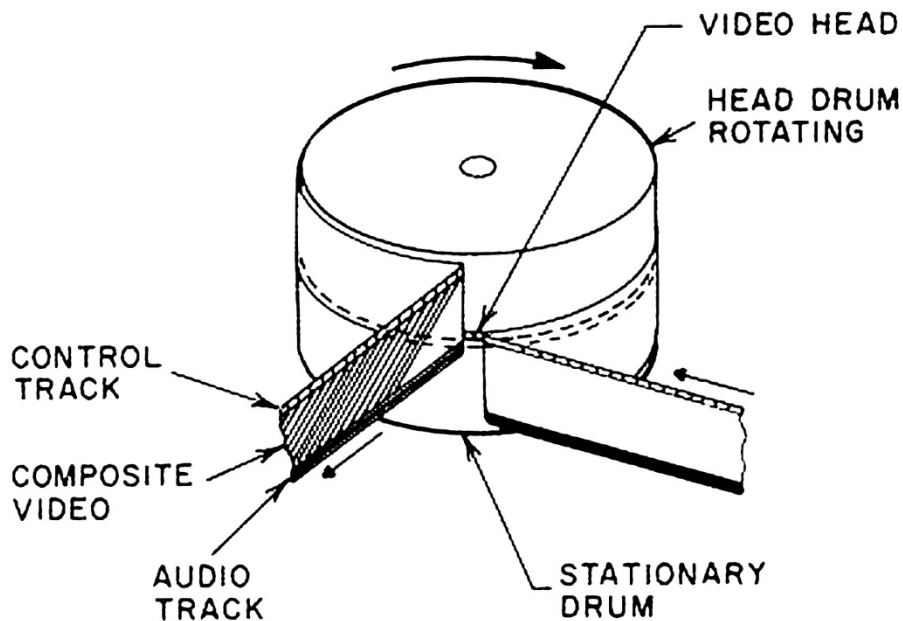

Figure 2. Tape path of a Type A machine
- 1) A fundamental fact about "A" format machines is this: They use a helical wrap that is **not** a full 360 degree wrap around the head drum; therefore each revolution of the head drum recorded **almost** 1 field of picture. The reason for this is that the tape actually leaves the drum in such a manner that approximately 9 horizontal lines of signal loss or dropout occur for every field of picture. (See figure 2.) This loss was nominally placed at the bottom of the picture and timed to end two horizontal lines before the vertical blanking interval preceding the next field of picture. By doing this, the vertical sync pulse was left intact and made vertical lockup of picture monitors possible. But this part of the design sure did mess up the very bottom of the picture!